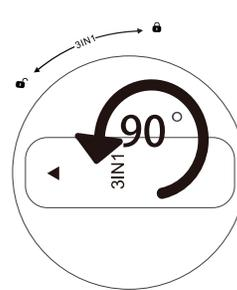

Figure 6
4. Rotate the old filter element 90° counter-clockwise, so the triangle icon on top of filter element is pointed at , take out the old element See **Figure 6**.